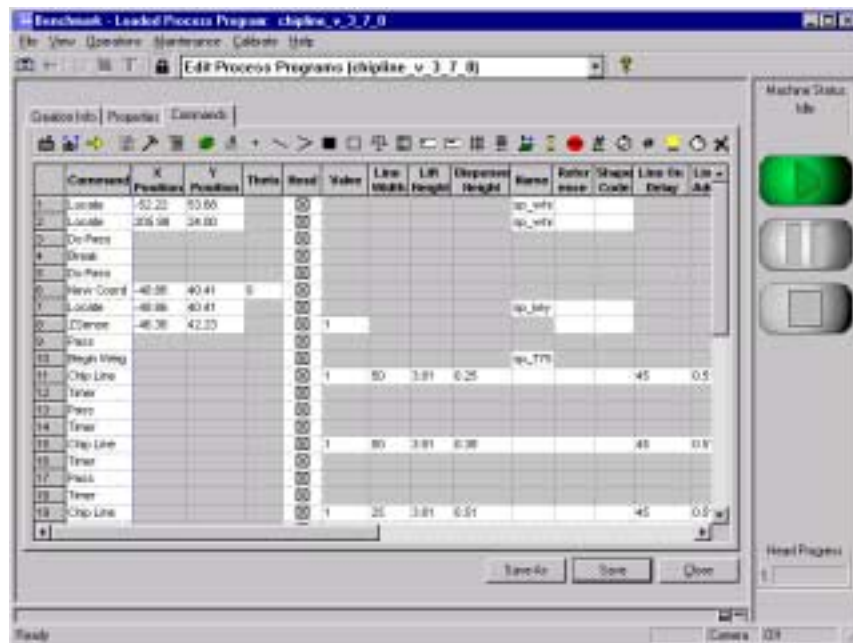

Figure 14-4
1. Place the cursor on a line of the process program grid where you wish to place a Chipline. Select the **Chip Line** icon  from the top of the Process Program Grid. See Figure 14-4.